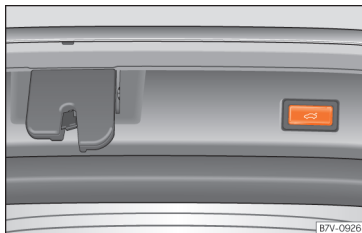

Fig. 104 Button with rear lid open
- **OR:** press the  button on the open rear lid **» Fig. 104 »  in Introduction on page 108.**
- Hold down the button »» Fig. 104 with the rear lid open for at least three seconds. The opening angle is memorised.
- Hold down the button »» Fig. 104 with the rear lid open for at least three seconds.